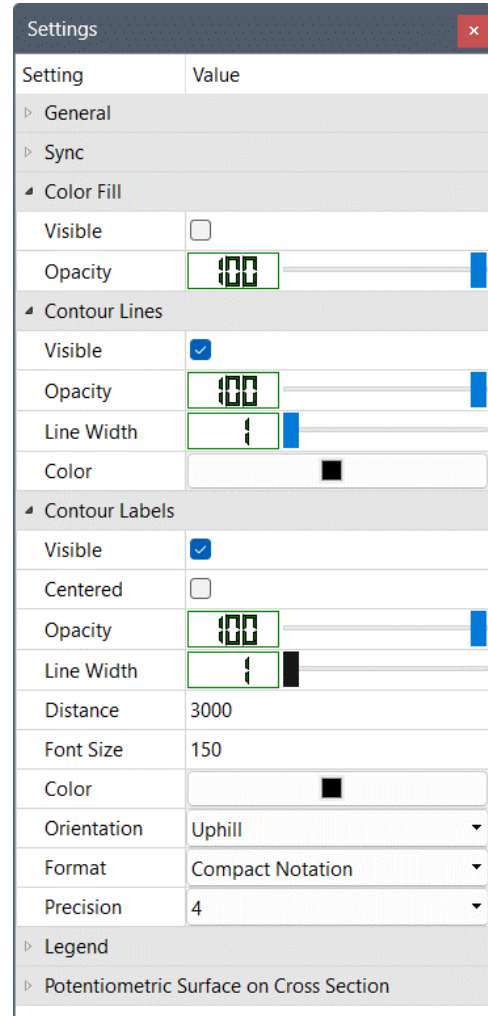

Figure 163. The Color Fill, Contour Lines, and Contour Labels groups of the Settings window for Contour Maps
3. Color Fill (Figure 163)
4. Contour Lines (Figure 163)
5. Contour Labels (Figure 163)